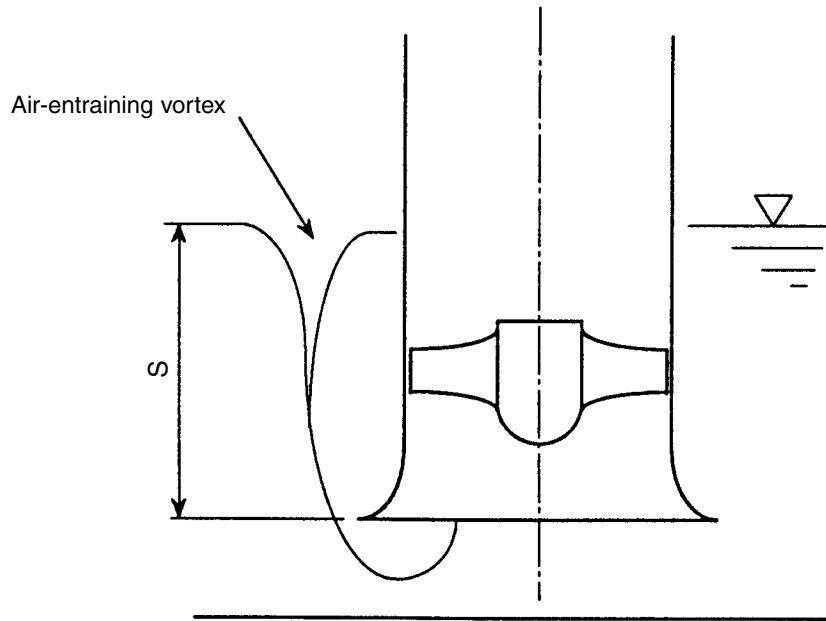

Fig. 1-6 AIR-ENTRAINING VORTEX
Lack of enough submergence causes the generation of harmful air-entraining vortices as shown in Fig. 1-6. The submergence at which generation of vortices can be avoided is termed as the **Minimum Submergence (S)**.